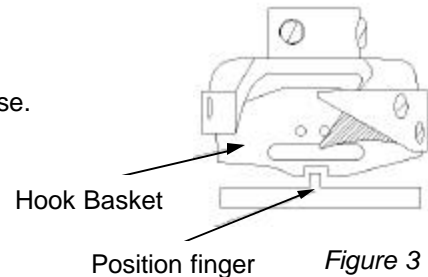

Figure 3
14. Rotate Hook Basket until notch is aligned with Position Finger nose. See figure 3